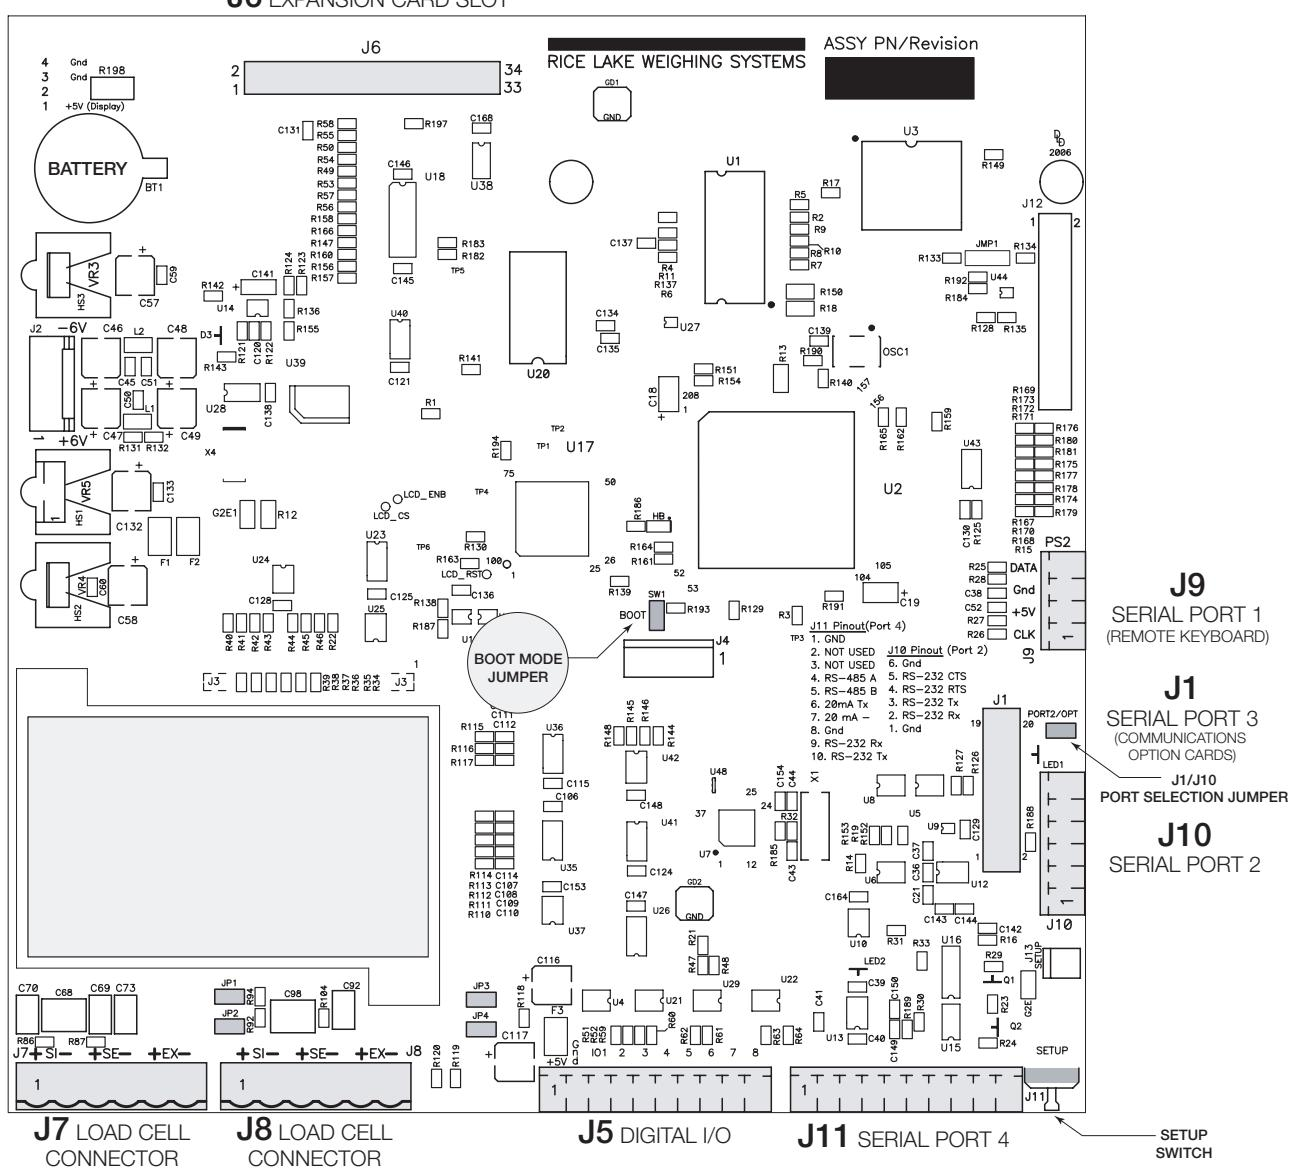

Figure 2-4. 820i CPU Board
**NOTE:** Installation of option cards in connector J1 requires removal of the J1/J10 port selection jumper (see Figure 2-4 on page 8). Removing the jumper disables RS-232 communications through connector J10. For the USB interface card only, connections for simultaneous RS-232 (configured as Port 3) and USB communications (Port 2) are provided on the USB interface card.
2. Carefully align the large option card connector with connector J6 on the CPU board (see Figure 2-4 on page 8) or J1. Press down to seat the option card in the CPU board connector.
3. Use the screws provided in the option kit to secure the other end of the option card to the threaded standoffs on the CPU board (see Figure 2-4).
Table 2-4 lists the slot numbers, CPU board connectors, and configuration assignments made for both onboard and expansion card functions in the 820i. See Figure 2-4 for connector locations.
See Figure 2-4 on page 8 for CPU board battery location and orientation (positive side up).